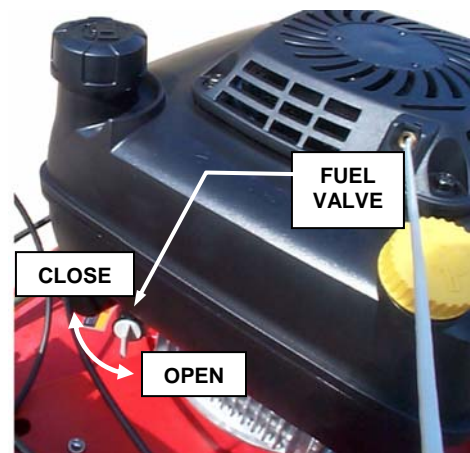
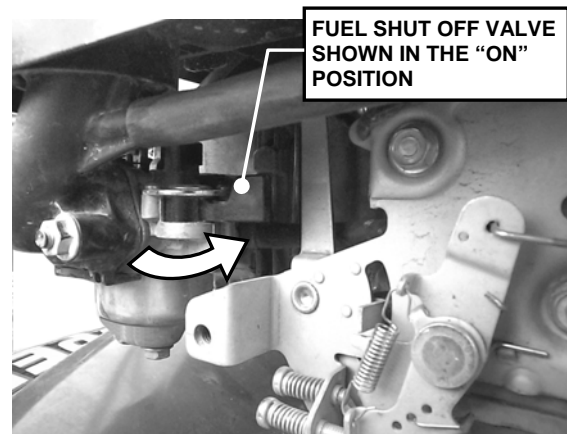

FIGURE 2.3
FIGURE 2.3a
1. Make sure fuel valve on engine is open. See Figure 2.3 (Kawasaki engines) or Figure 2.3a (Honda engines).